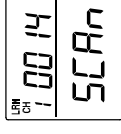

Figure 19
5. If a new device is found, the LCD shows the ID of the Power Monitor on the upper line and SCAN on the lower line. (Figure 19)